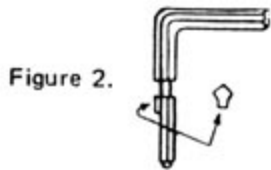

Figure 2.
2. Hold the dial with the last number at the changing index and insert the changing key in the key hole in the back of the lock (see Figure 2). Insert the key until the wing is entirely inside the lock and comes to a positive stop.